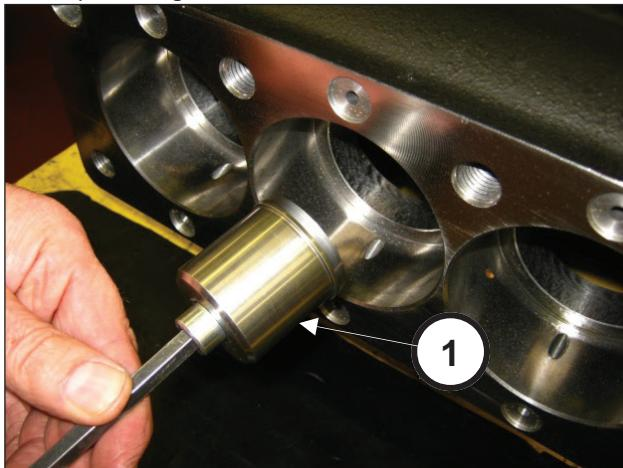
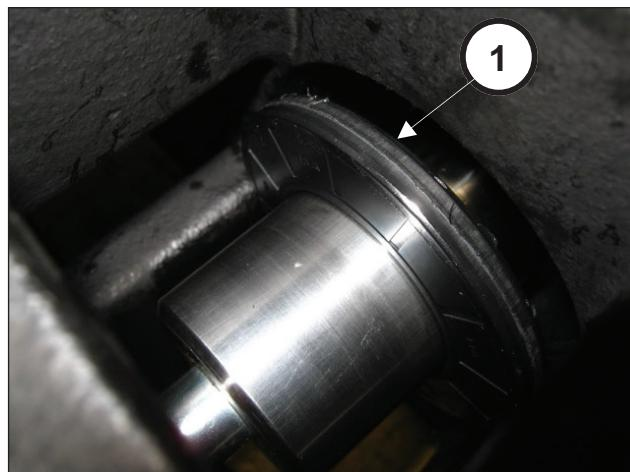
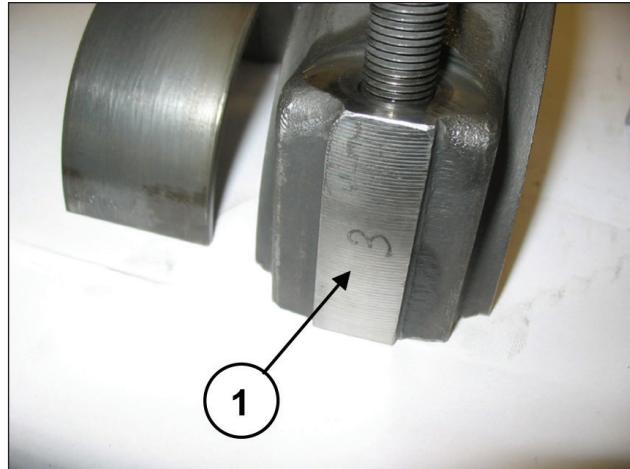

Fig. 34
Fig. 35
Fig. 42
Insert the tool (pos. ①, Fig. 34) and screw it on the rod to end stroke (pos. ①, Fig. 35).
Separate the caps from the conrods. Proper coupling can be verified by the numbering on the side (pos. ①, Fig. 42). After having checked casing cleaning, proceed with assembly of half support-piston guide unit inside casing rods (pos. ①, Fig. 35).
Block the three units with the use of special tool code 27566200 (pos. ①, Fig. 34).